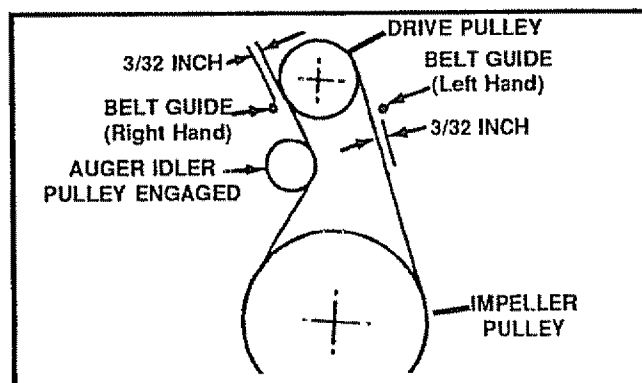

FIG. 28
- Loosen the belt guides (See Fig. 28) and pull away from the drive pulley.
- Loosen the auger idler pulley (See Fig. 28) and slip the belt out.
- Measure the distance between the belt guides and the belt (See Fig. 28). The distance should be $3/32$ " for each guide.